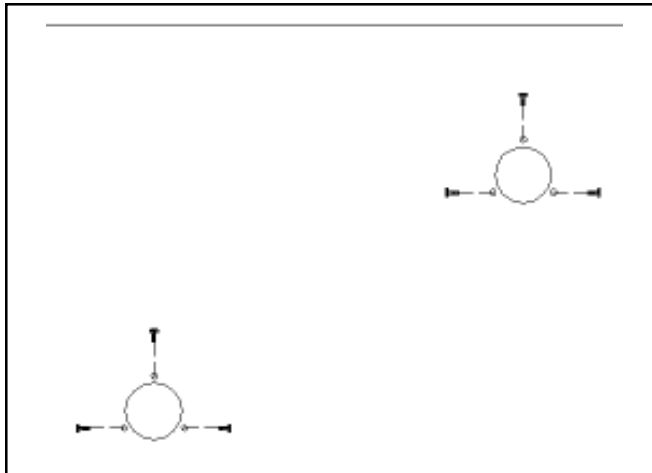

FIGURE 5
- C.) Remove the 6 screws securing the back of outer cabinet to intake and exhaust tube flange and save (See Figure 5).
- J.) Gently slide the combustion tube assembly back into outer cabinet. Make sure air intake and exhaust tubes extend through holes in outer cabinet back. From the outside, secure the cabinet back to the tube flanges with the screws removed in Step C. Make sure flange gaskets are in place (See Figure 5).
- D.) Remove six (6) screws from back of heater which secure back of outer cabinet to intake and exhaust tube flanges. Save screws. (See Figure 5).